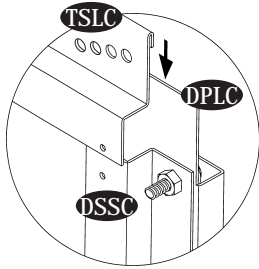

Fig.1
10. Assemble the door panel strip (TSLC) with door pane. Make sure the door panel top edge to be inserted into the (TSLC). See fig.1.